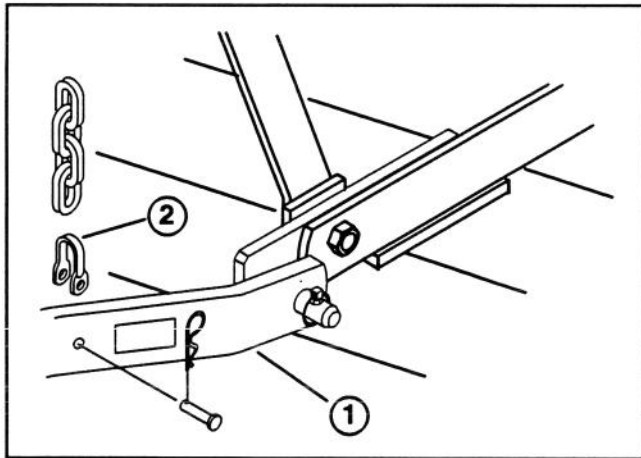

Figure 5
8. Secure bottom end of each to chain to appropriate lower lift arm with a shackle, clevis pin and hair pin cotter, as shown in figure 5.